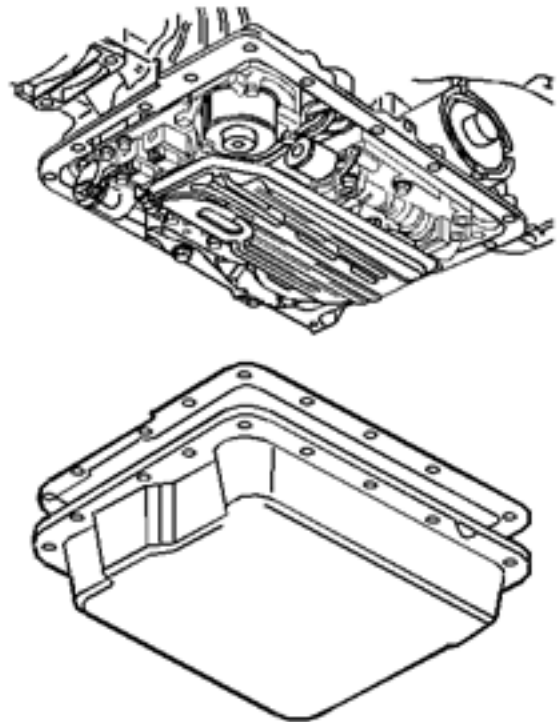

Figure 7
4. Install the oil pan and a new gasket. **Reference Figure 7.**